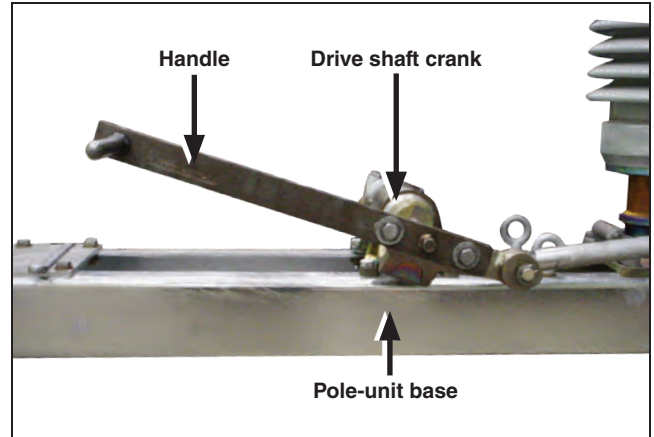
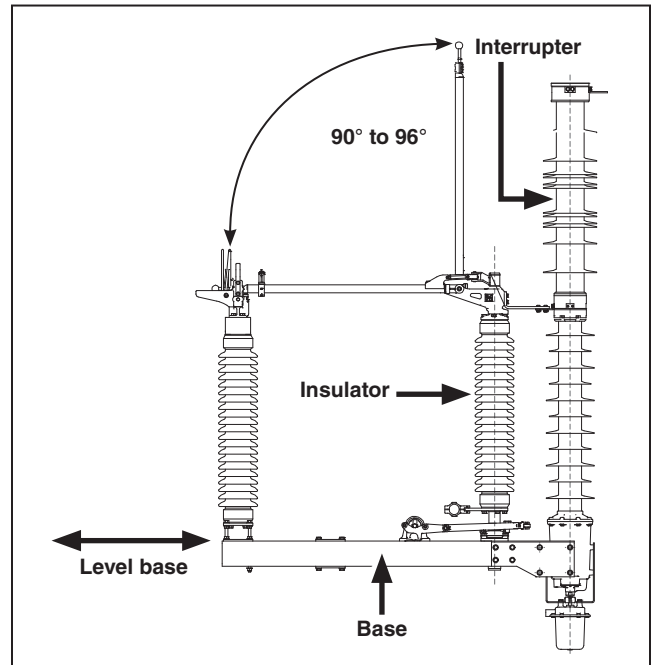

Figure 25. Attach the TEMPORARY MANUAL OPERATING handle to the drive-shaft crank.
Figure 26. Check the angle of the disconnect blade.
- Bolt the TEMPORARY MANUAL OPERATING handle to the disconnect drive-shaft crank. See Figure 25. Firmly crank the disconnect to its fully **Open** position. Visually check the disconnect blade opens to an angle of 90° to 96° from horizontal. See Figure 26.